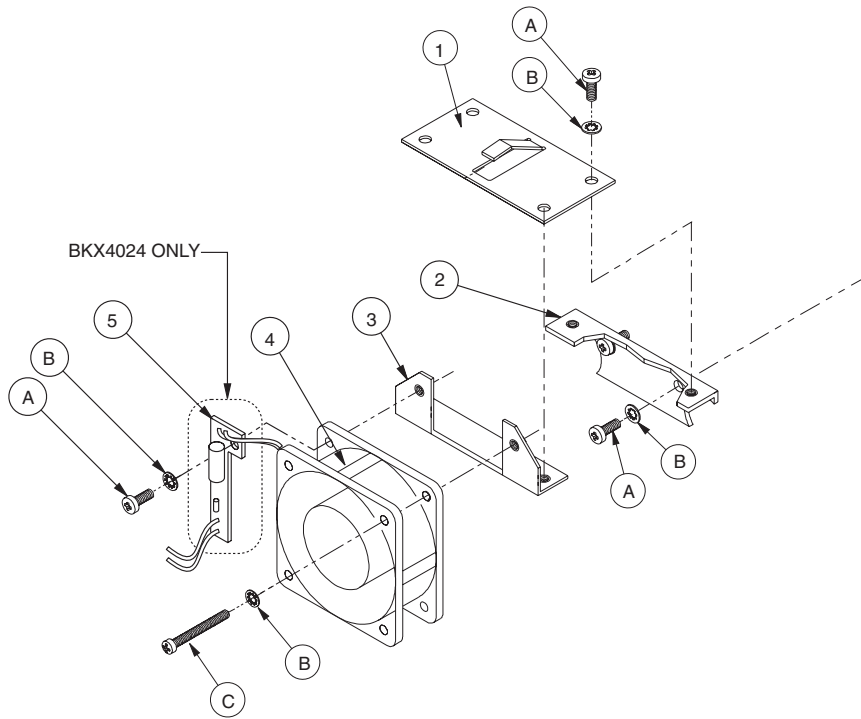

Figure 5. BZX4000, BZX4024 Blower Assembly Installation
3. Attach the blower assembly to the enclosure's rear plate using the hardware provided (refer to Figure 5, 6, or 7).